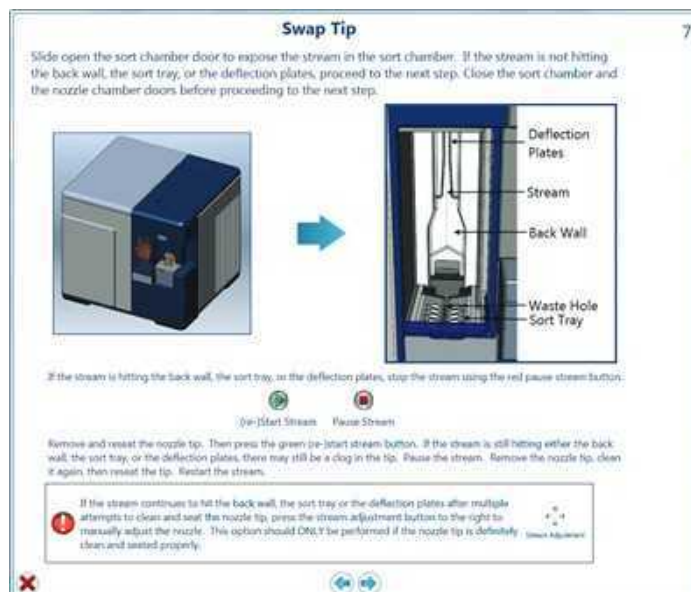

Fig. 119. AutoGimbal Swap Tip window.
25. Check to see if the stream is hitting the waste hole. If it is, proceed to step 39. If the stream is hitting the back wall, sort tray, or deflection plates, remove and reseal the nozzle tip (Figure 119).
27. Click the Stream Adjustment icon (see bottom of Figure 119).